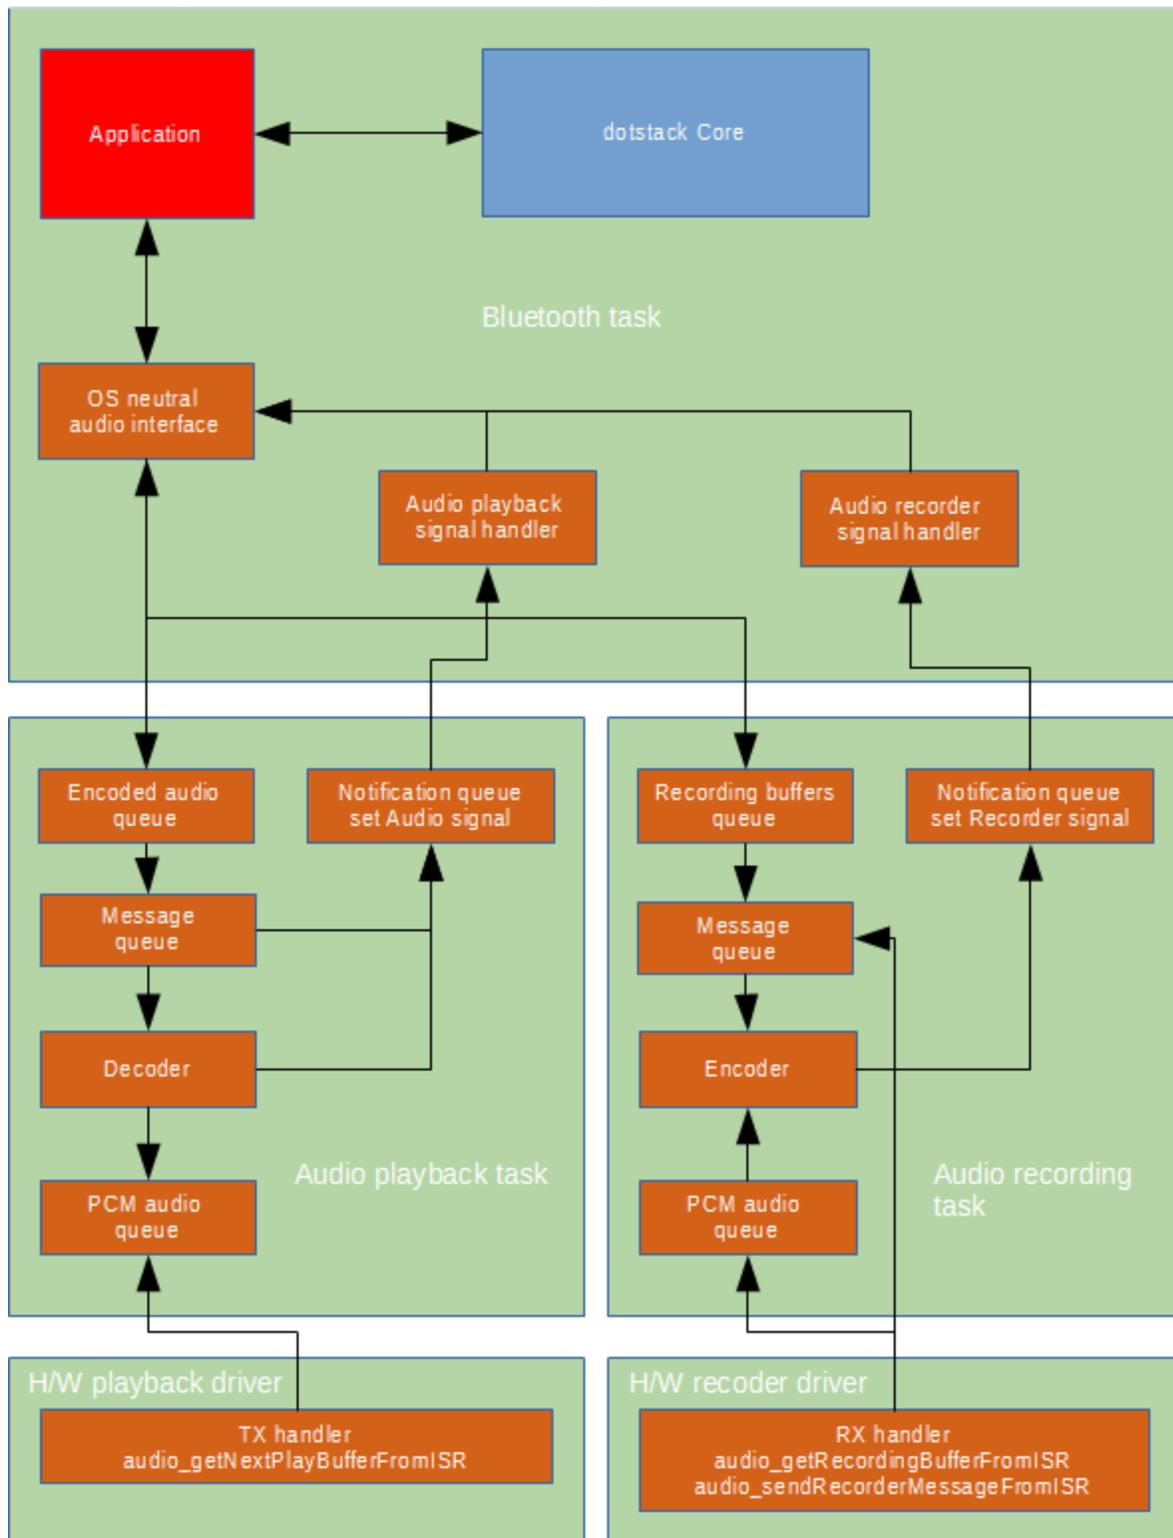

Figure 3
- OS-specific audio playback interface (Audio playback task in Figure 3)
- Hardware-specific audio playback interface (H/W playback driver in Figure 3)
- OS-specific audio recording interface (Audio recording task in Figure 3)
- Hardware-specific audio recording interface (H/W recorder driver in Figure 3)